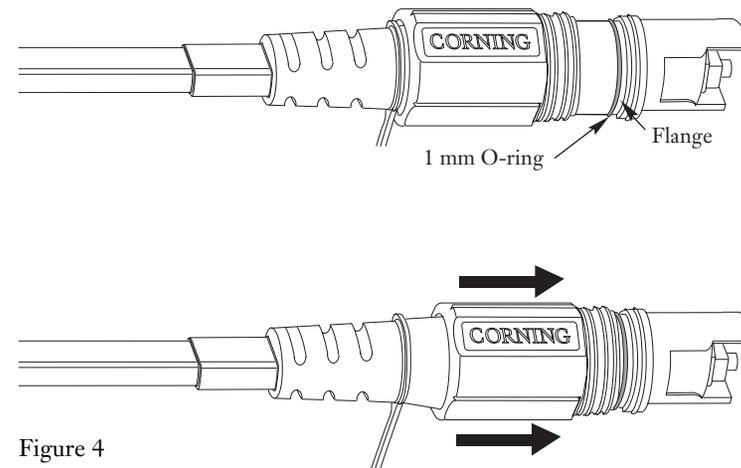

Figure 4
2.4 Make sure that the O-ring is resting behind the plug body's flange. Gently slide the connectors coupling nut against the 1mm O-ring to seat it against the flange (Figure 4).